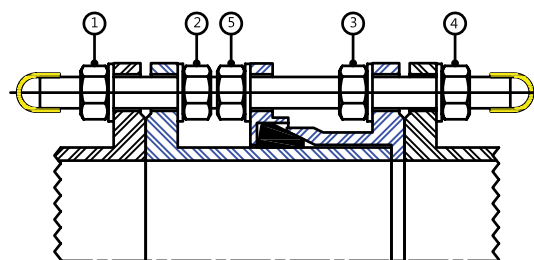

Fig.3
- 6 For restrained dismantling joint Insert tie-rods. (NOTE: Without the tie-rods in place, the fitting is NOT RESTRAINED.) Each tie-rod will have a total of 5 nuts when assembled as shown in fig. While inserting the tie-rod, thread the nuts into position (the five nuts positions as shown in fig. 3): Nut 1,2,3,4 for tightening both spool piece and coupling piece with mating flanges. Nut 5 for tightening gland (Type-A only). The tie-rod must pass through the flanges on each end of the dismantling joint. Make sure the tie-rod lengths are equal. Tighten the nuts that secure the flanges BEFORE torqueing the nuts on the end ring to complete the installation.